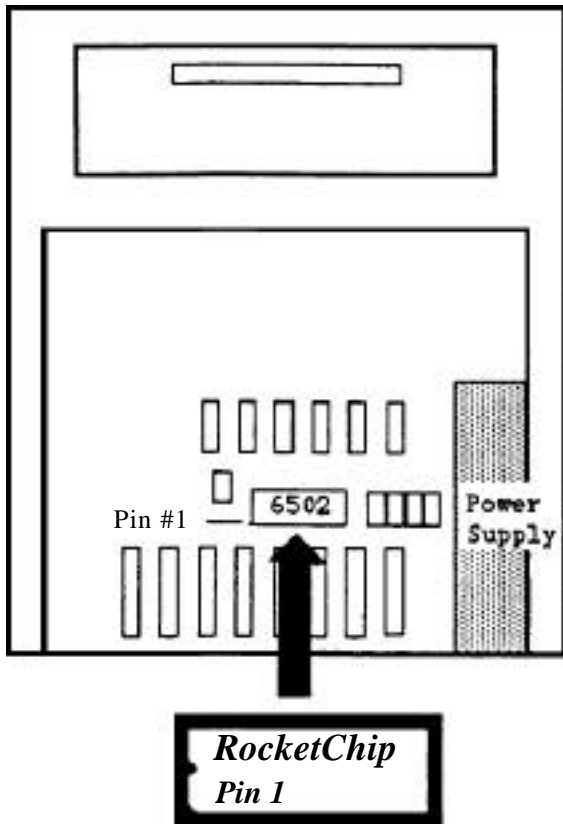
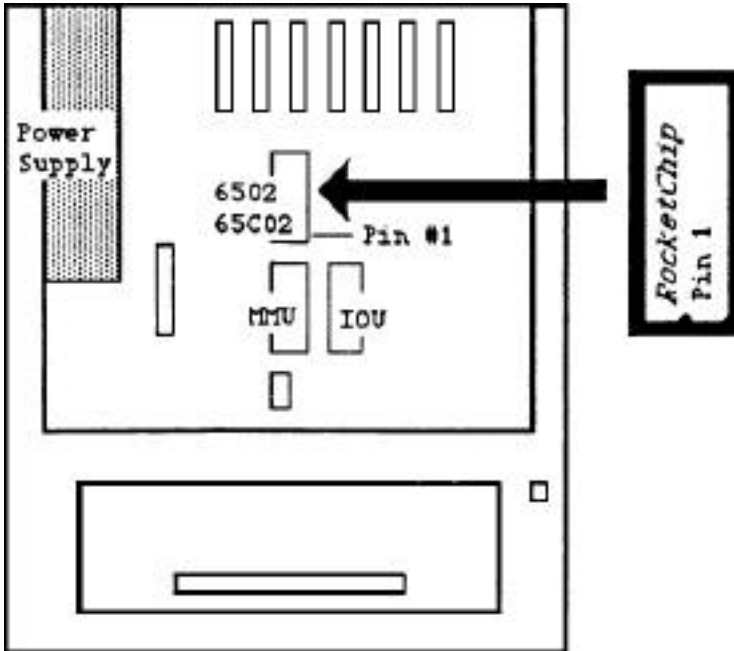

Figure 1 - Apple II, II Plus Motherboard
Figure 2 - Apple IIe Motherboard
**Touch the power Supply housing.** The location of the 6502 for the Apple II, and II *Plus* is shown in Figure 1. The location of the 6502/65C02 for the Apple IIe is shown in Figure 2. Use an IC chip puller tool or a small flatbladed screwdriver to carefully remove the 6502/65C02 from the socket on the motherboard. To avoid damaging the 6502/65C02, try to work the part straight out of the socket so that pins do not get bent. If pins do get bent, they can be carefully straightened with long nose pliers.
**Touch the power supply housing.** Remove the *Rocketchip* from the protective package. Look at either Figure 1 (II, II *Plus*) or Figure 2 (IIe) and install *Rocketchip* in the motherboard socket as shown. Before pushing *RocketChip* fully into the socket, make sure that Pin #1 is oriented correctly and that all 40 pins of the *RocketChip* are properly aligned in the socket and that they are not bent.